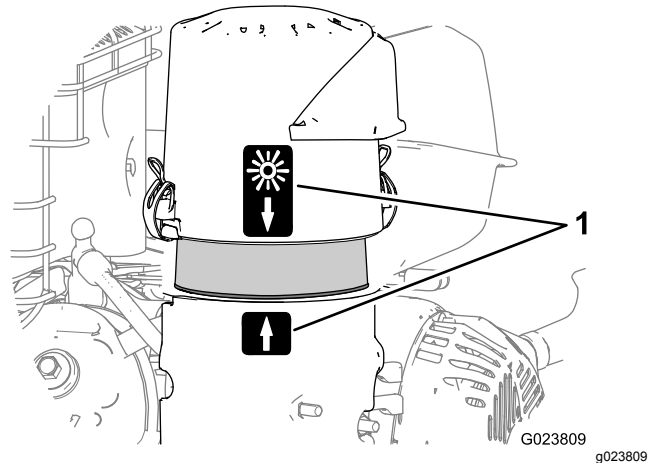

Figure 23
8. Align the arrow decal on the air-cleaner cover and the arrow decal on the base (Figure 23).